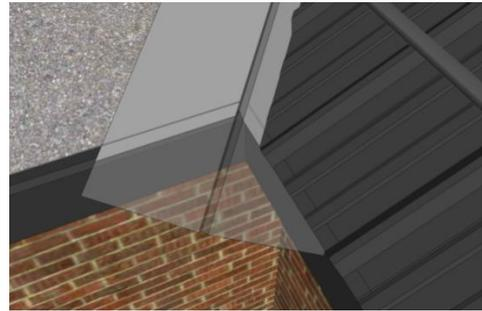

Figure 4
- At the outer edges of sections such as **F**, **H**, and **I**, where the panels are not cut at an angle, **Rake** or **Gable** trim is used. Since trim is often 50% of the cost of materials it can be a temptation to skimp on Rake Trim. You should be aware that these trims not only look nice and make the job look finished, but in areas where it is windy the Rake trims are essential to prevent the wind from getting under the panels and vibrating them loose. A roof with Rake trims is much less likely to have the panels blow off than one without them. We have three profiles that can be used for Rake trim: House Rake, Outside Corner, and Narrow Outside Corner (Fig4).
- After the roof is on you will probably need **Snow Guard**. We have several profiles that we make here (Fig4), as well as individual **Snowbirds**. All are effective if enough are installed, so your choice is mostly a matter of which ones are most appealing to you. One thing to keep in mind with the Mast Snow Guard is if you have trees close to your roof and your gutters tend to become clogged with debris, these will tend to do so as well. If you have a situation where you *must* use the Mast Snow Guard to keep water from overshooting your gutter, vent material can be put under them to keep debris out but still let water through.
Start at the drip edge with the valleys and work your way up. On the first valley push it down far enough that the shortest side (if there is one) overhangs the drip edge by 1 inch (See Figure 4). Push it tight into the roof, shifting it back and forth to find the center as you do. When you find the place that it fits snugly, hold it firmly in place while you use a $\frac{3}{4}$ inch roofing tack to hold it in place. Place one tack out toward the edge of the valley, approximately an inch from the edge and about an inch from the bottom. If one piece of flashing will cover the entire length of the valley, move up to the top and push it tight into the valley and nail the top end like you did the bottom.